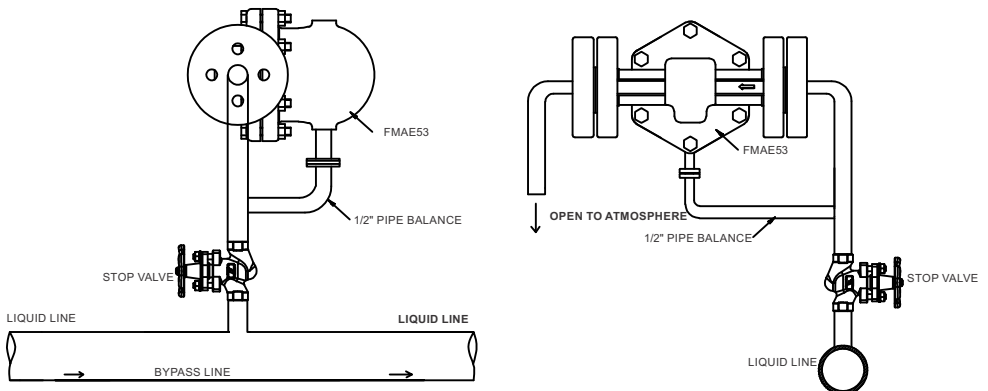

Figure 4: Forbes Marshall Air Eliminator installation horizontally on condensate line
2. To remove the accumulated liquid from Air Eliminator, a 1/2" pipe balance line can be installed as shown in figure 4. This ensures that the condensate is removed from Air Eliminator to make space for the incoming air.
6. Start-up and Commissioning: [Refer figure 4]
Check Installation. The arrow on the name plate must point downwards, the arrow on the casting indicates the flow direction. Install the balancing pipe as shown in figure 4